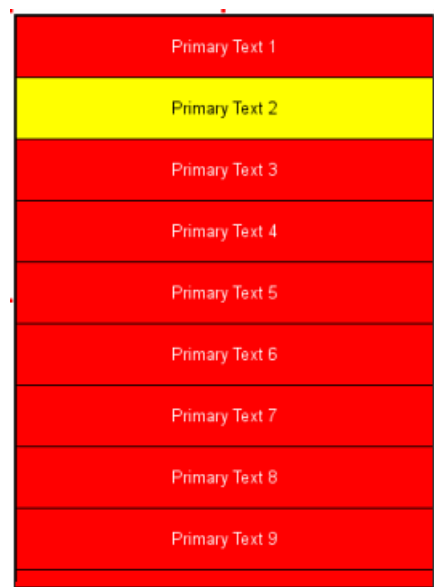

FIG. 162 TPDesign5 - Listview button
2. In the *General* tab of the Properties window, select **Listview** as the *Type* (FIG. 162):